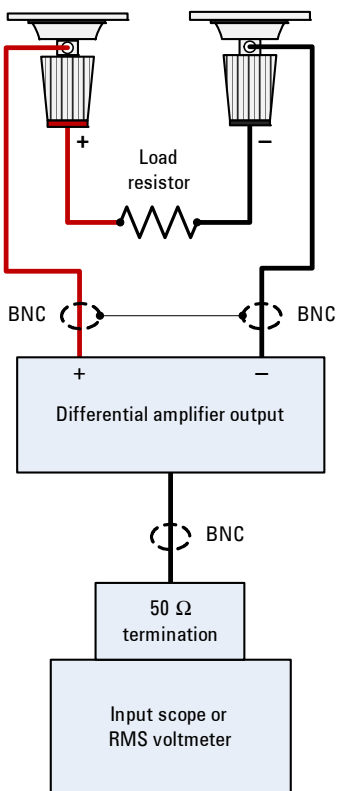

Figure 1-3 Test setup (C)
- 1** Power off the power supply, and connect the output to be tested as shown in Figure 1-3 to a differential amplifier and load resistor (5 Ω for U8031A, 20 Ω for U8032A, and 1.67 Ω for Output 3).